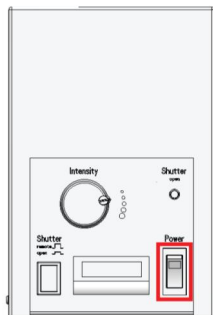

Fig. 1 EL6000
- 1) Turn on the EL6000 fluorescence lamp (Fig. 1) and make sure the shutter is set to remote